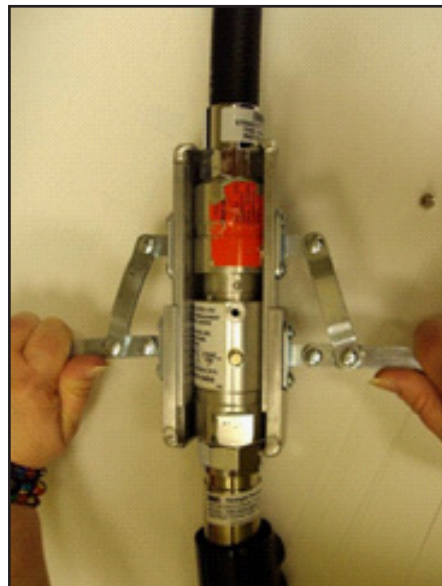

Figure 3
5. Pull the two handles of the Easy Grip down at the same rate to slowly bring the two halves together. Check the main o-ring for position as the top and bottom of the breakaway come together. See Figure 3.